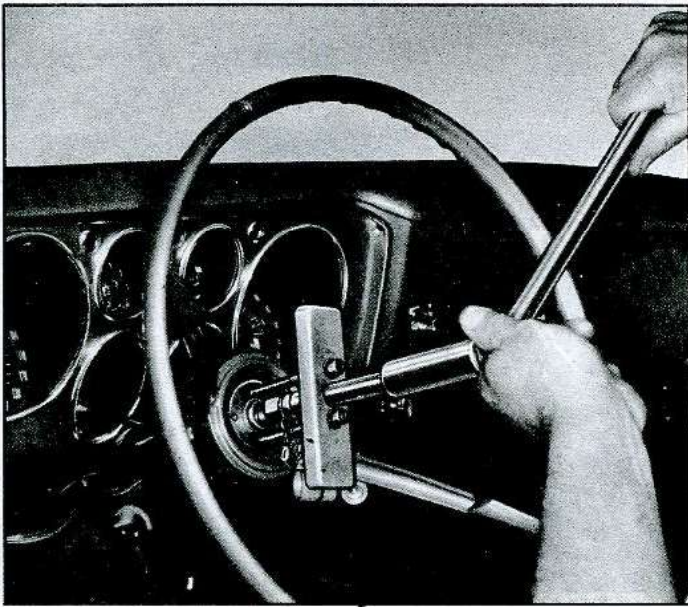

Fig. 6—Steering Wheel Removal
6. Use Tool J-2927 and J-2927-6 to remove steering wheel (fig. 6).